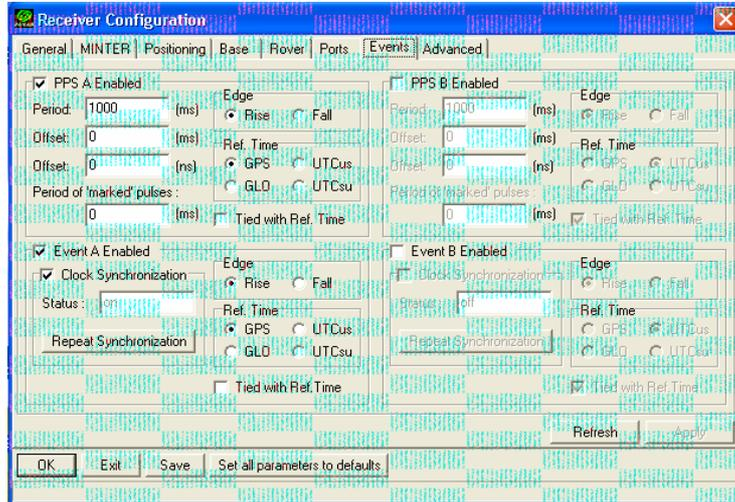

Figure 3: Configuration of 1-pps output and 1-pps input (Event) using software PCVU (see Annex D.2)
- The 1-pps input should be coherent with the reference frequency and with an amplitude of less than about 3 V peak-to-peak in 50  $\Omega$ . Make sure that the receiver clock is synchronized to the positive going pulse of the external 1-pps and not tied to any reference time scale, see Figure 3.
- The connector of the 1-pps output is defined as the internal reference of the receiver clock. Make sure that the 1-pps output is set to ON, that the positive going pulse is chosen and not tied to any reference time scale, see Figure 3.